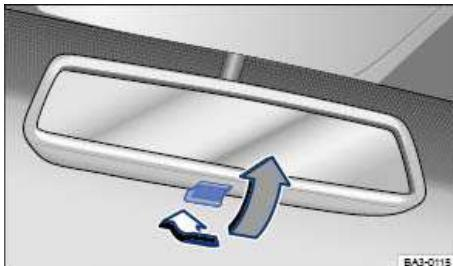

Fig. 96 Manually adjustable inside mirror.
- To adjust to non-glare visibility, move the lever so that it points backwards =>fig. 96.